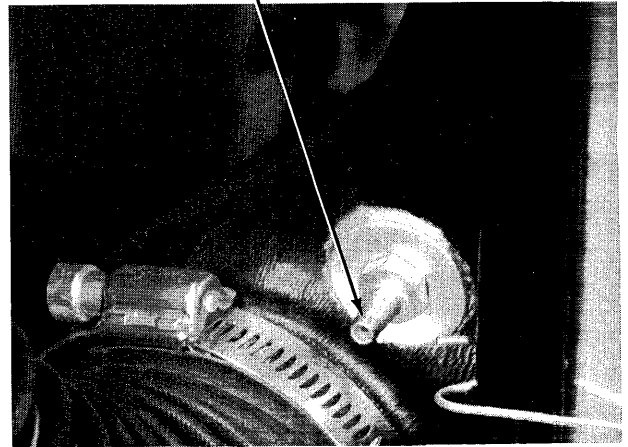

Figure 5-80. Air Pressure Check
- Utilizing pressure gauge, check air pressure at air valve on output plenum (see Figure 5-80).